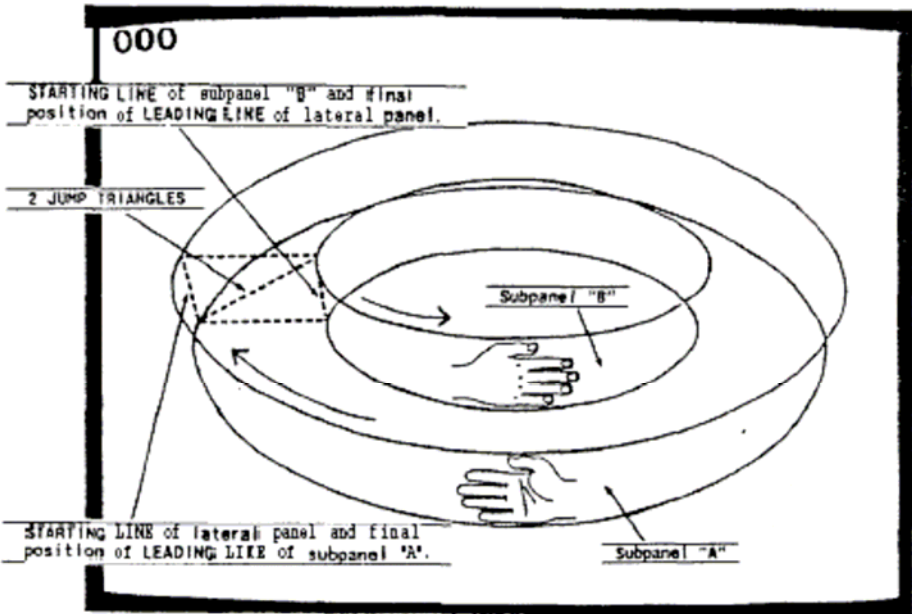

fig. 50 (SPACE SCREEN)
These values provide a convenient perspective (a slant view from the side) for viewing the "O" model and were used to help make fig. 50.
Notice that, this time, we want the inside surface of the sub panel that runs around the inner perimeter (sub panel B, fig. 50) to be the visible surface. Applying the RIGHT HAND RULE, notice that the LOW LINE of sub panel B must move counter-clockwise for the inside surface to be visible.
1. Select the **CONSTRUCT 3-D PANEL** option. Load "18" In 2 OF THIS LINE and "2" Into PAINT NUMBER. Go to the graph. Hold the "F" (Follow) key down until the outside-facing sub panel (sub panel A, fig. 50) is closed. (Stop before jumping up to the inner loop - see "STARTING LINE of lateral panel and final position of LEADING LINE of sub panel A" caption, fig. 50.)
2. Type the "Z" (Zero) key to load "0" into PAINT NUMBER. Type the "F" (Follow) key once to construct the two JUMP TRIANGLES (shown in dotted lines, fig. 50) that serve to advance the LEADING LINE to the starting position to construct the Inside-facing sub panel (sub panel B, fig. 50).